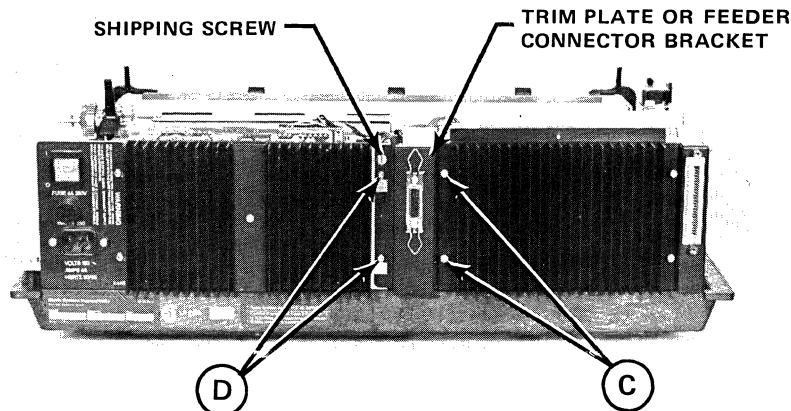

Figure 4-10. REAR PANEL FEEDER CONNECTOR BRACKET
- 5) Referring to Figure 4-10, remove the feeder connector bracket (or trim plate) from the center rear panel of the machine.